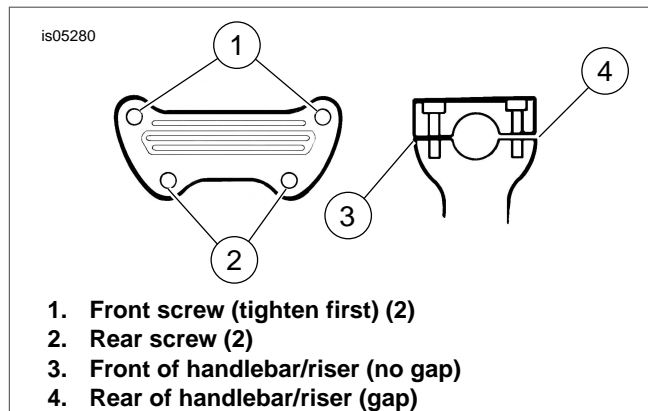
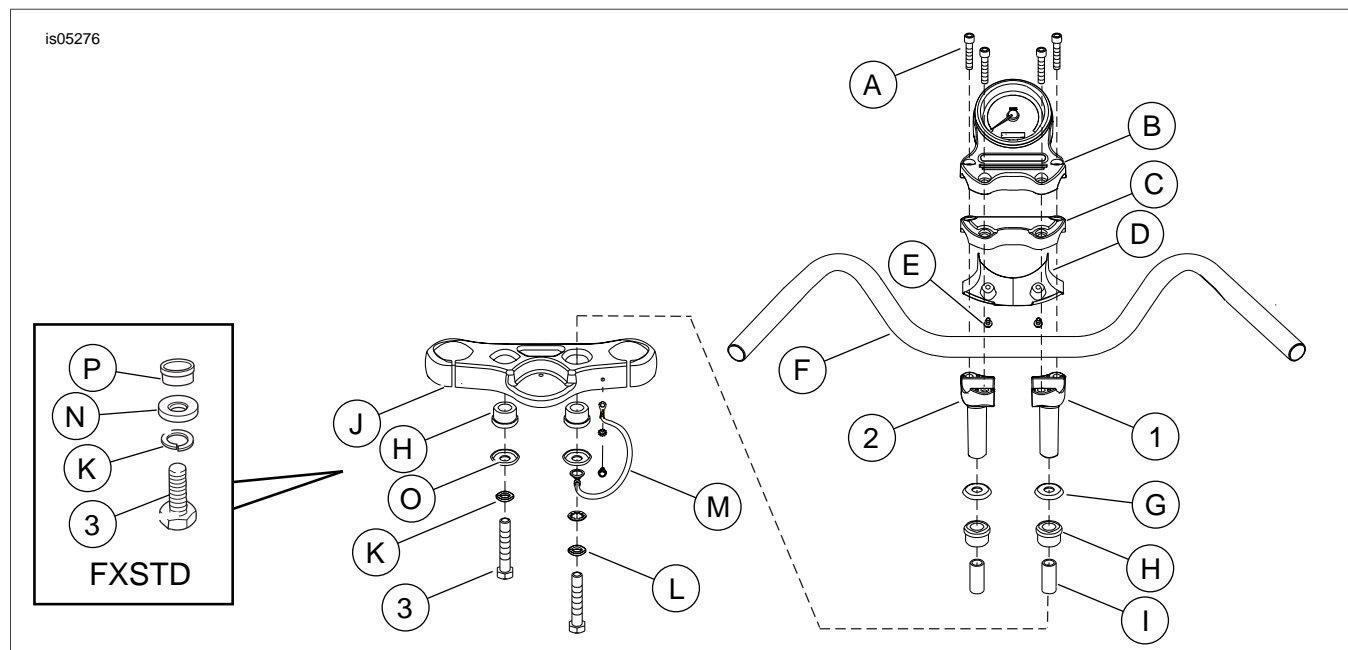

Figure 1. Handlebar Mounting
Figure 2. Service Parts: Tall Handlebar Riser
See Figure 2 and Table 1.
See Figure 2. The upper cup washer (G) must be oriented with the flat side up and the lower cup washer (O) with the flat side down.
1. Align the components as shown, and install the risers (1 and 2) to the upper fork bracket. The ground cable (M) and the internal tooth lock washer (L) are located on the right side only. Do not tighten the riser mounting screws (3) at this time.
3. See Figure 1. Loosely install riser clamps or caps onto the handlebars and risers with the Bar & Shield toward the front of the motorcycle. Install four socket head screws (1 and 2) as shown.
4. See Figure 2. Check that the risers stay properly aligned with the handlebar and tighten the riser mounting screws (3) following the instructions in the service manual.
See Figure 1. After tightening, the gap between the upper clamps and the risers should only be at the rear of the handlebar (4). There should be no gap between the riser caps and the risers at the front of the handlebar (3).
5. Adjust handlebar to the desired position, verify that it is centered on the risers, then tighten the front socket head screws (1) to 12-15 ft-lb (16-20 Nm). There should be no gap at the front of the risers.
6. Tighten rear socket head screws (2) to 12-15 ft-lb (16-20 Nm).